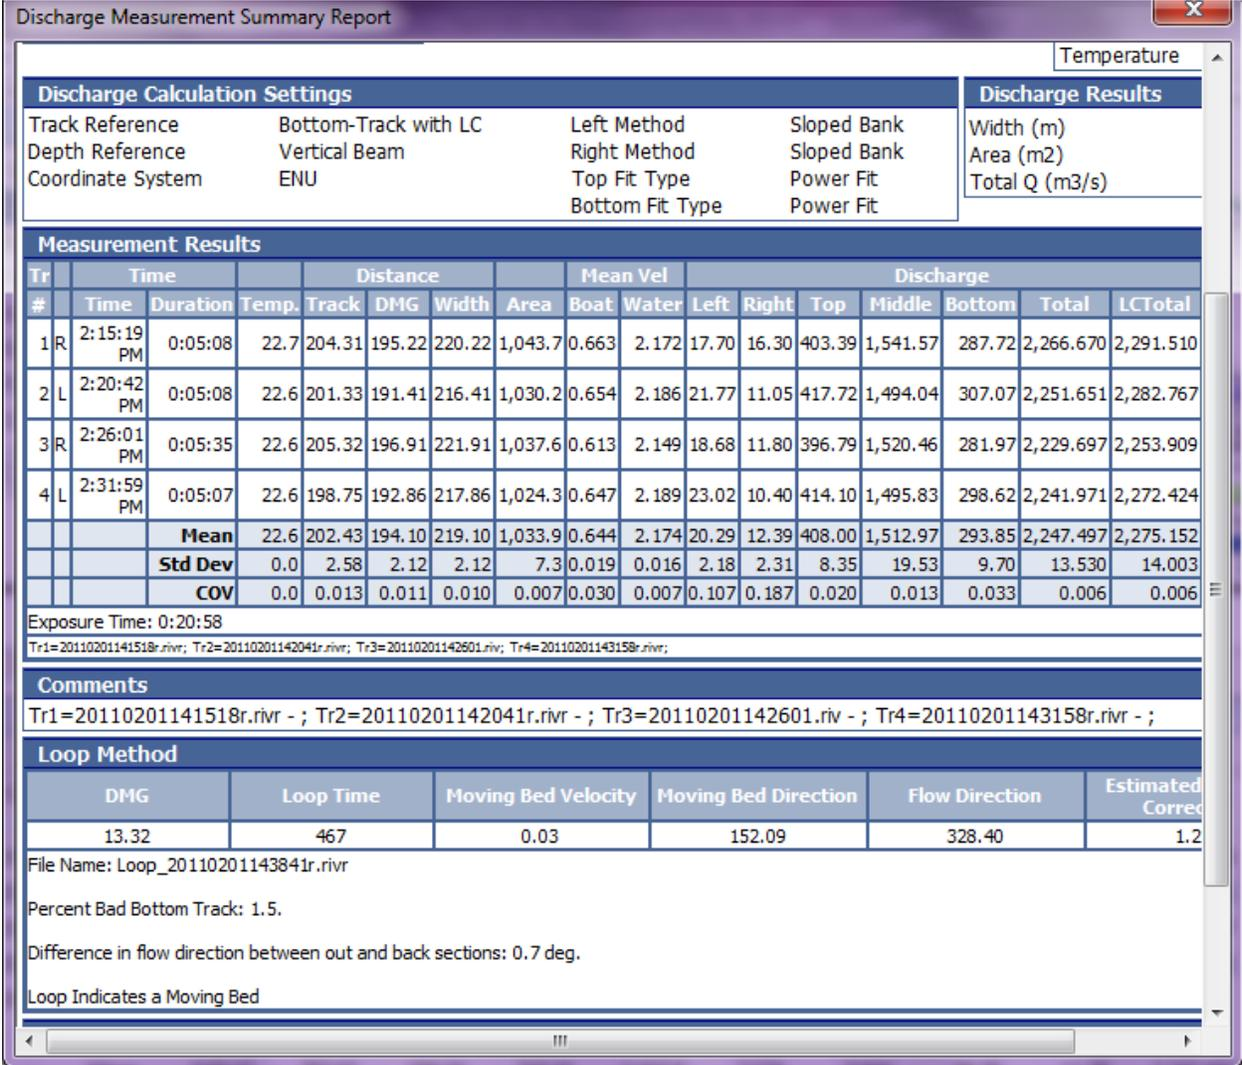

Figure 136. Discharge Summary Report
- Click the **Discharge Summary Report** icon under the Discharge Summary table to generate the final discharge summary report. The final report will display the entire Loop Method analysis along with measured and loop corrected discharge values as shown in Figure 136: